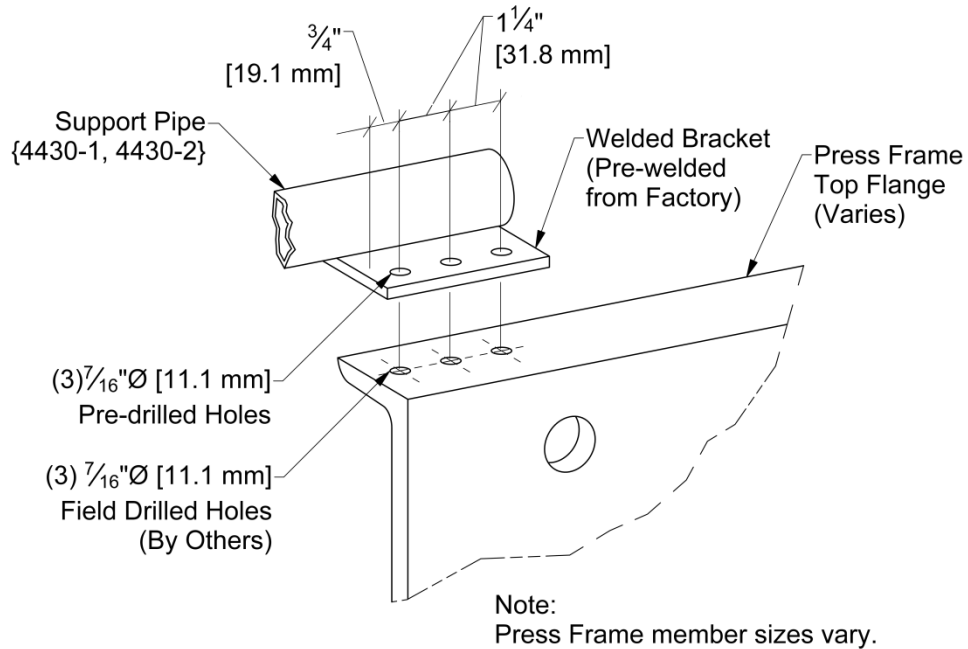

Figure 5
Step 1: Drill (3) 7/16"Ø [11.1 mm] holes through each end of the press frame top flange as shown in Figure 5 below.